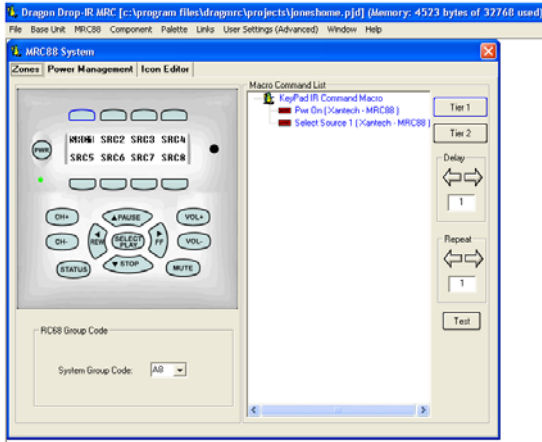

Figure 14
5. The MRC88m System Window will appear. Depending upon which mode was selected in step 1, (**BASIC** or **ADVANCED**), the System Window will offer different TAB's for system configuration. See **Figure 14 & 15** below.